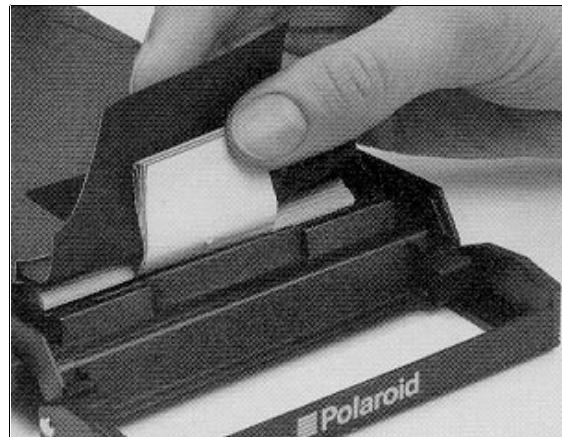

Figure 3-2. Checking Tabs
- c. Check that the white tabs are free, not caught between the pack and film holder. See figure 3-2.